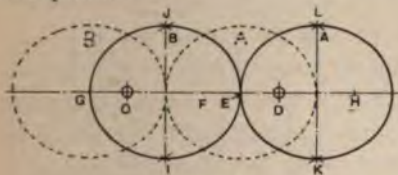

Fig. 6.
Fig. 6 is the same as Fig. 5, except the load is not symmetrically placed as regards the supports. Locate the center of gravity of the supports, and connect this with the point of loading  $W$ . Through the center of gravity perpendicular to this line draw the axis of rotation  $xx$ . From each point of support drop a perpendicular to  $xx$ , thus getting the arms at which the reactions act. The reactions at the supports may now be obtained by formula (9). The method of Fig. 6 is applicable to any plane severally supported and loaded, since
When two equal ellipses Fig. 6 are arranged to revolve on their foci as centers with a center distance equal to the major axis they will roll together perfectly and can serve as the pitch lines of gears.
If as in Fig. 6, the gears are placed as shown by the heavy lines, gear A will be turning three times as fast as B and B only one third as fast as A.